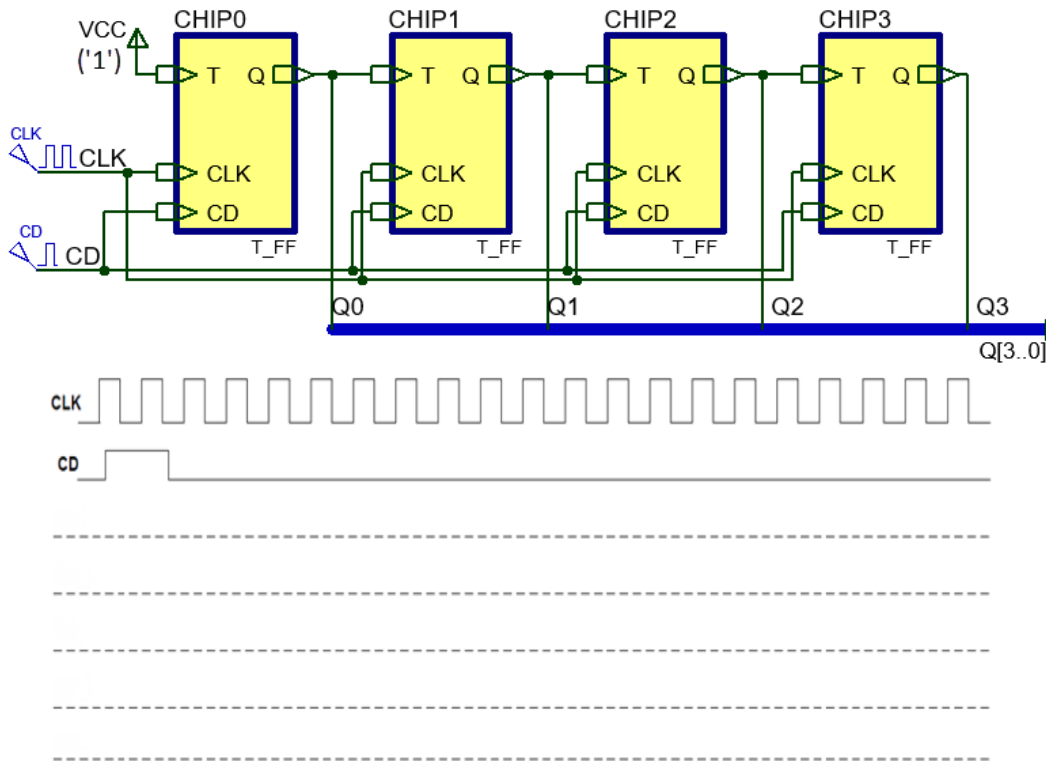

Fig. 1 Synchronous circuit based on  $T\_FF$  having this function table:
- Analyse the circuit in Fig. 1 drawing a timing diagram of the outputs Q(3..0) indicating which signals are sampled and when.